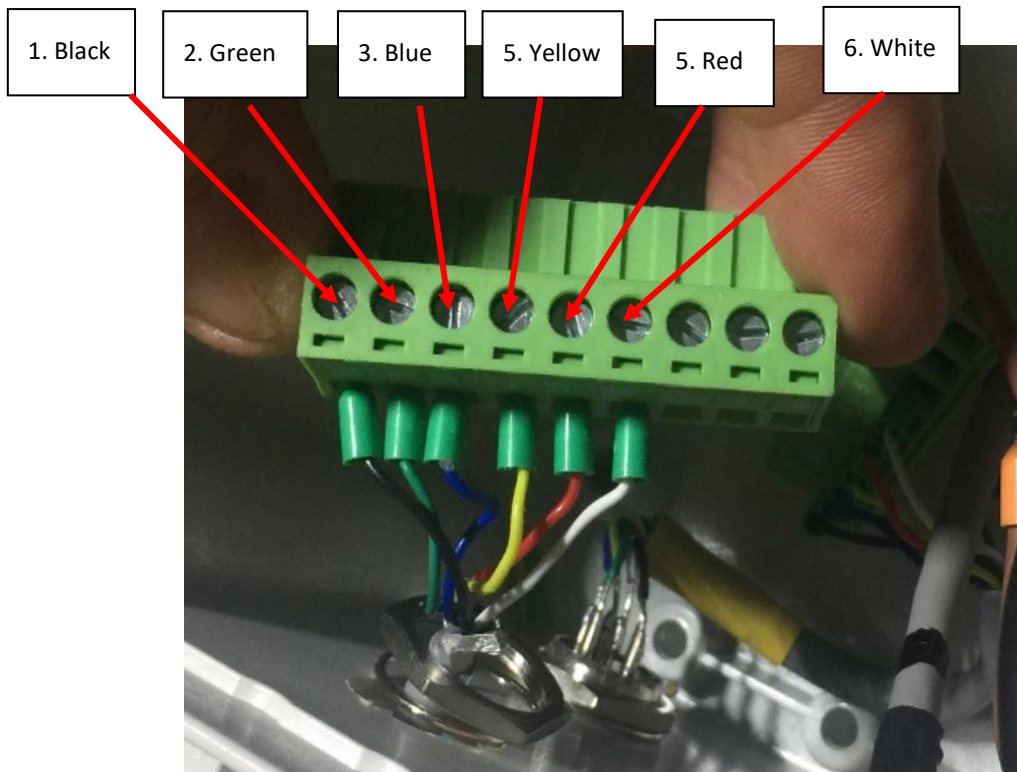

Figure 44 - Installing 6-pin Scale Connector
- Each pin on the socket (111-5764) is numbered. Match the numbering on the 9-pin connector with that of the socket (Only 1 - 6 used) See FIGURE 44 - INSTALLING 6-PIN SCALE CONNECTOR